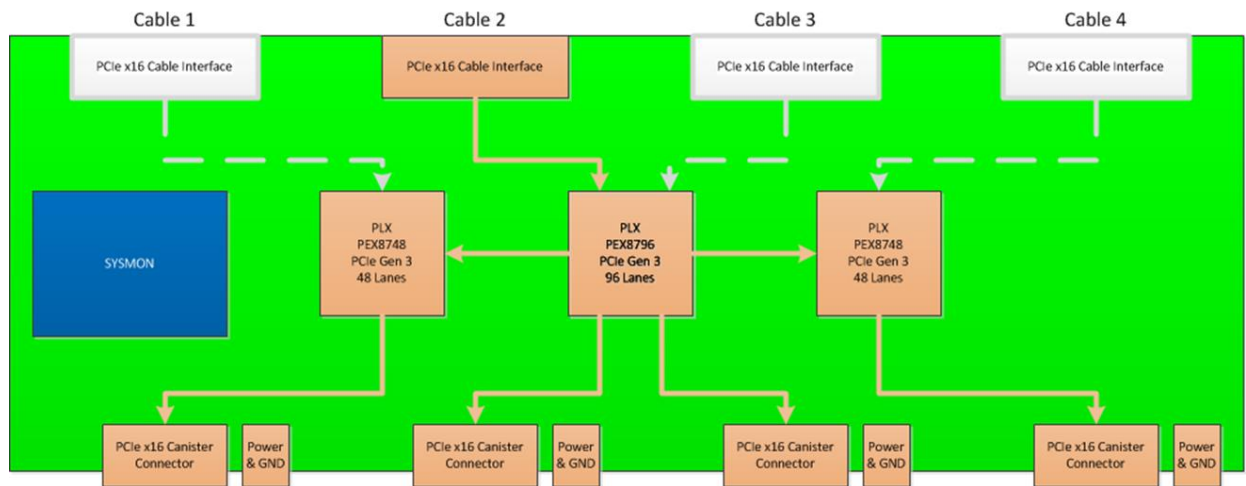

Figure 4.9 Main Backplane Connection Diagram for 1 Host Connection
- **One host server connected to one HDCA using one HIB (See Figure 4.9)**